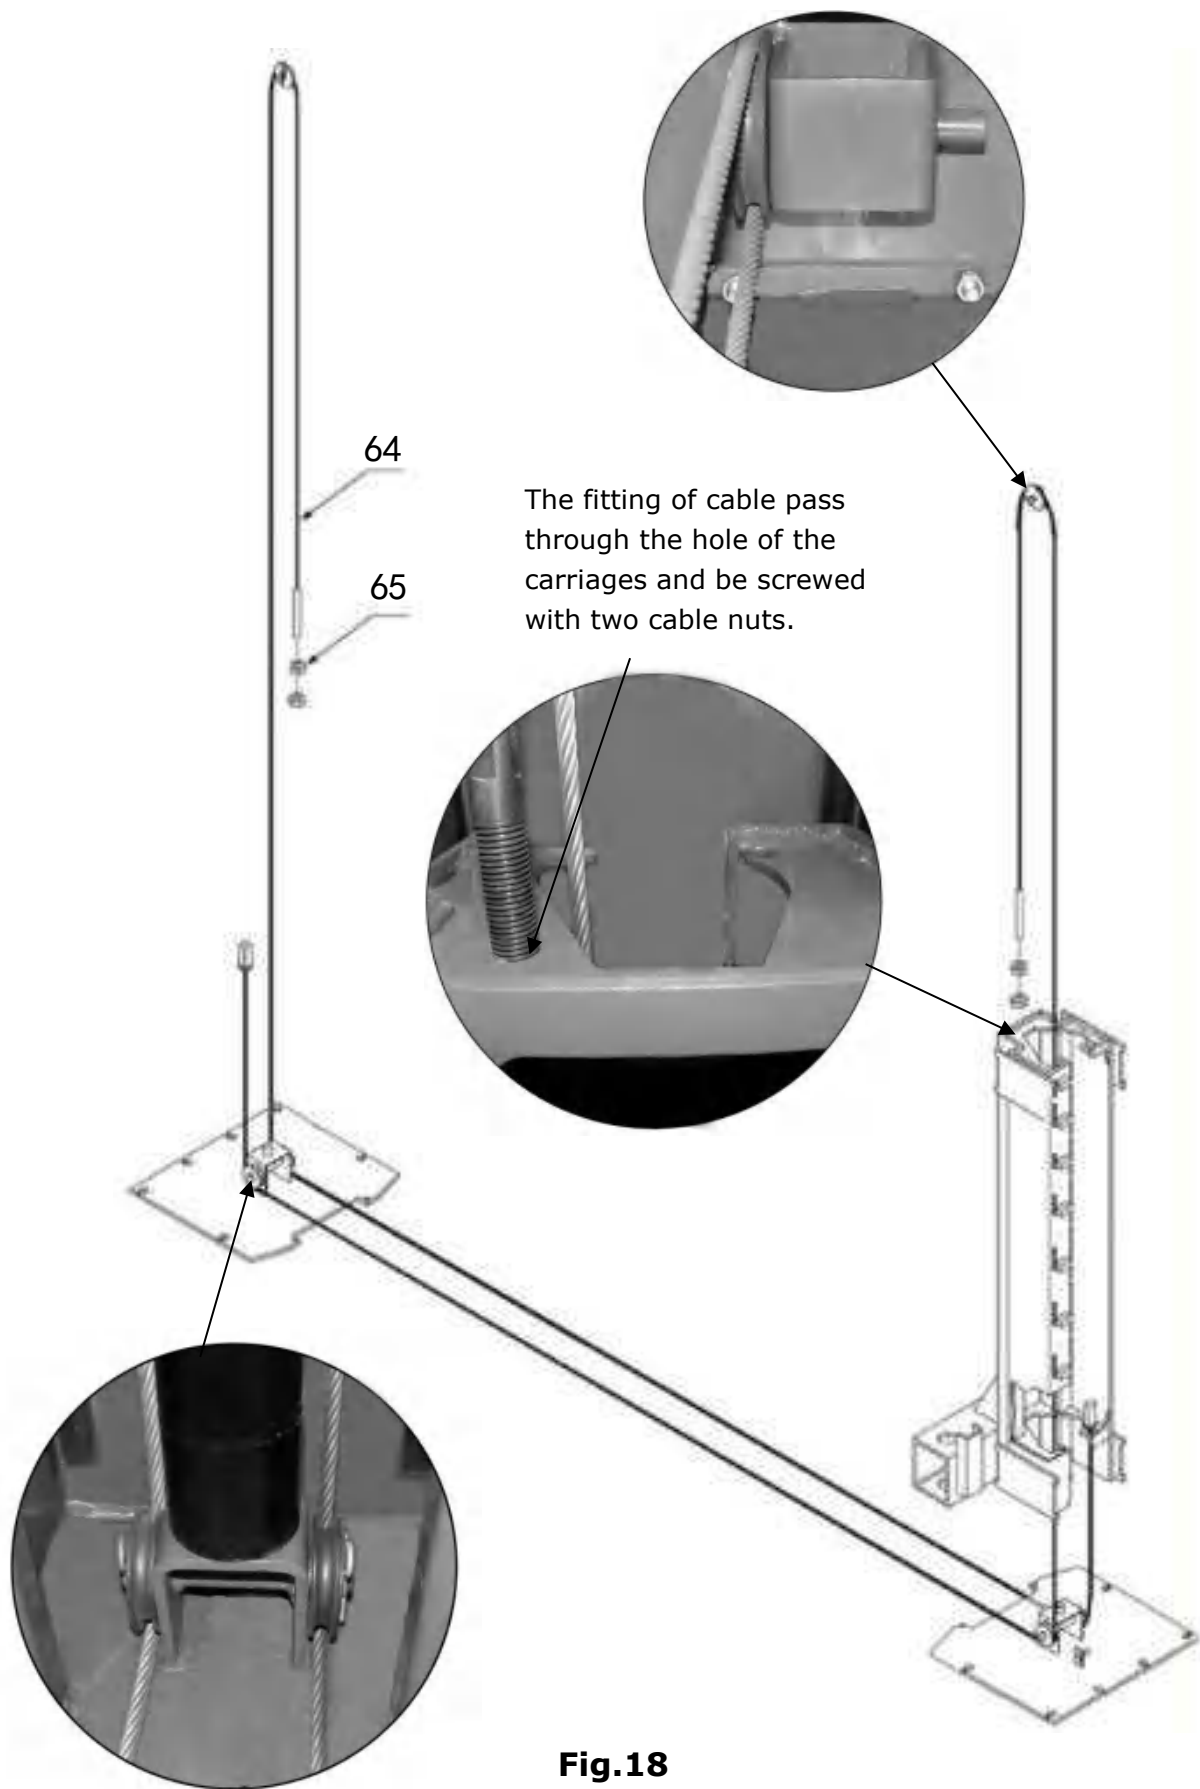

Fig.18
I. Install cable (See Fig. 18)